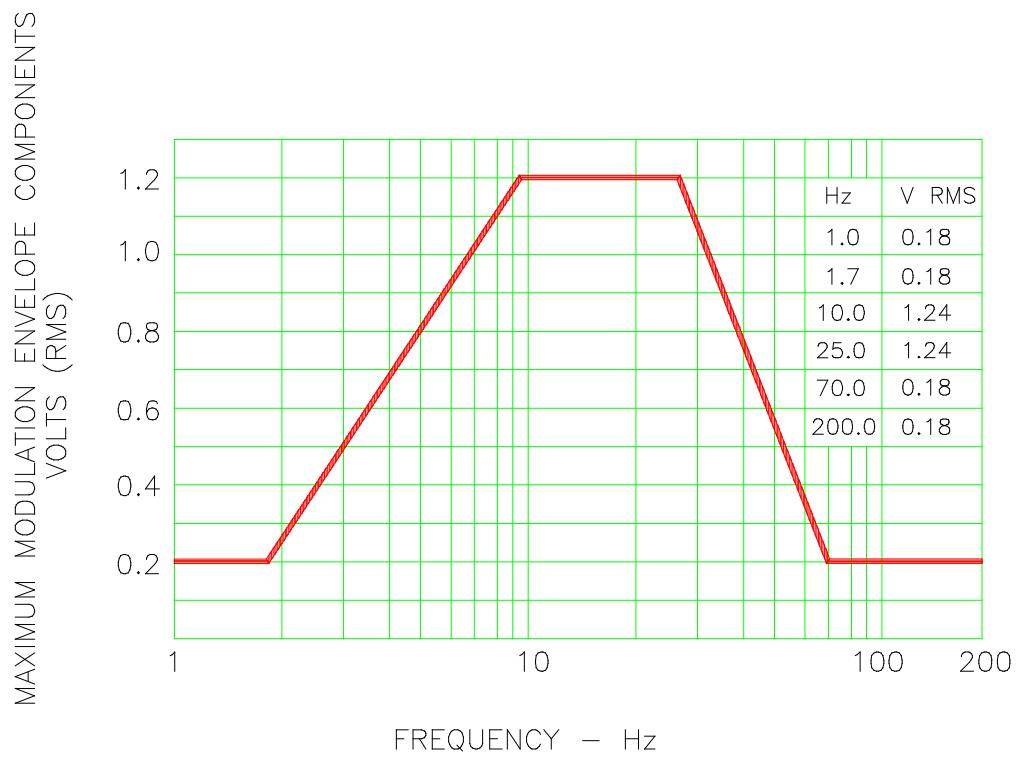

Figure 9-4: Voltage Modulation - Frequency characteristics
This test requires a numeric value entry equal to the modulation rate in Hz. This entry value must be between 1 Hz and 200 Hz. The amplitude modulation is calculated based on the modulation rate as defined in Figure 9-4. This test will last for 2 minutes.
**Note:** *Voltage modulation levels change linearly from frequency 1.7Hz to 10Hz and again from 25Hz to 75Hz. See Figure 9-4.*